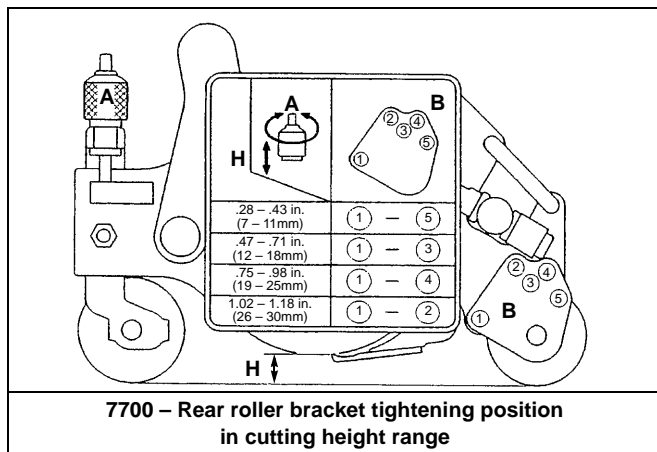

**Figure 4-48**
1. Lift the cutting units and stop the engine Figure 4-48.